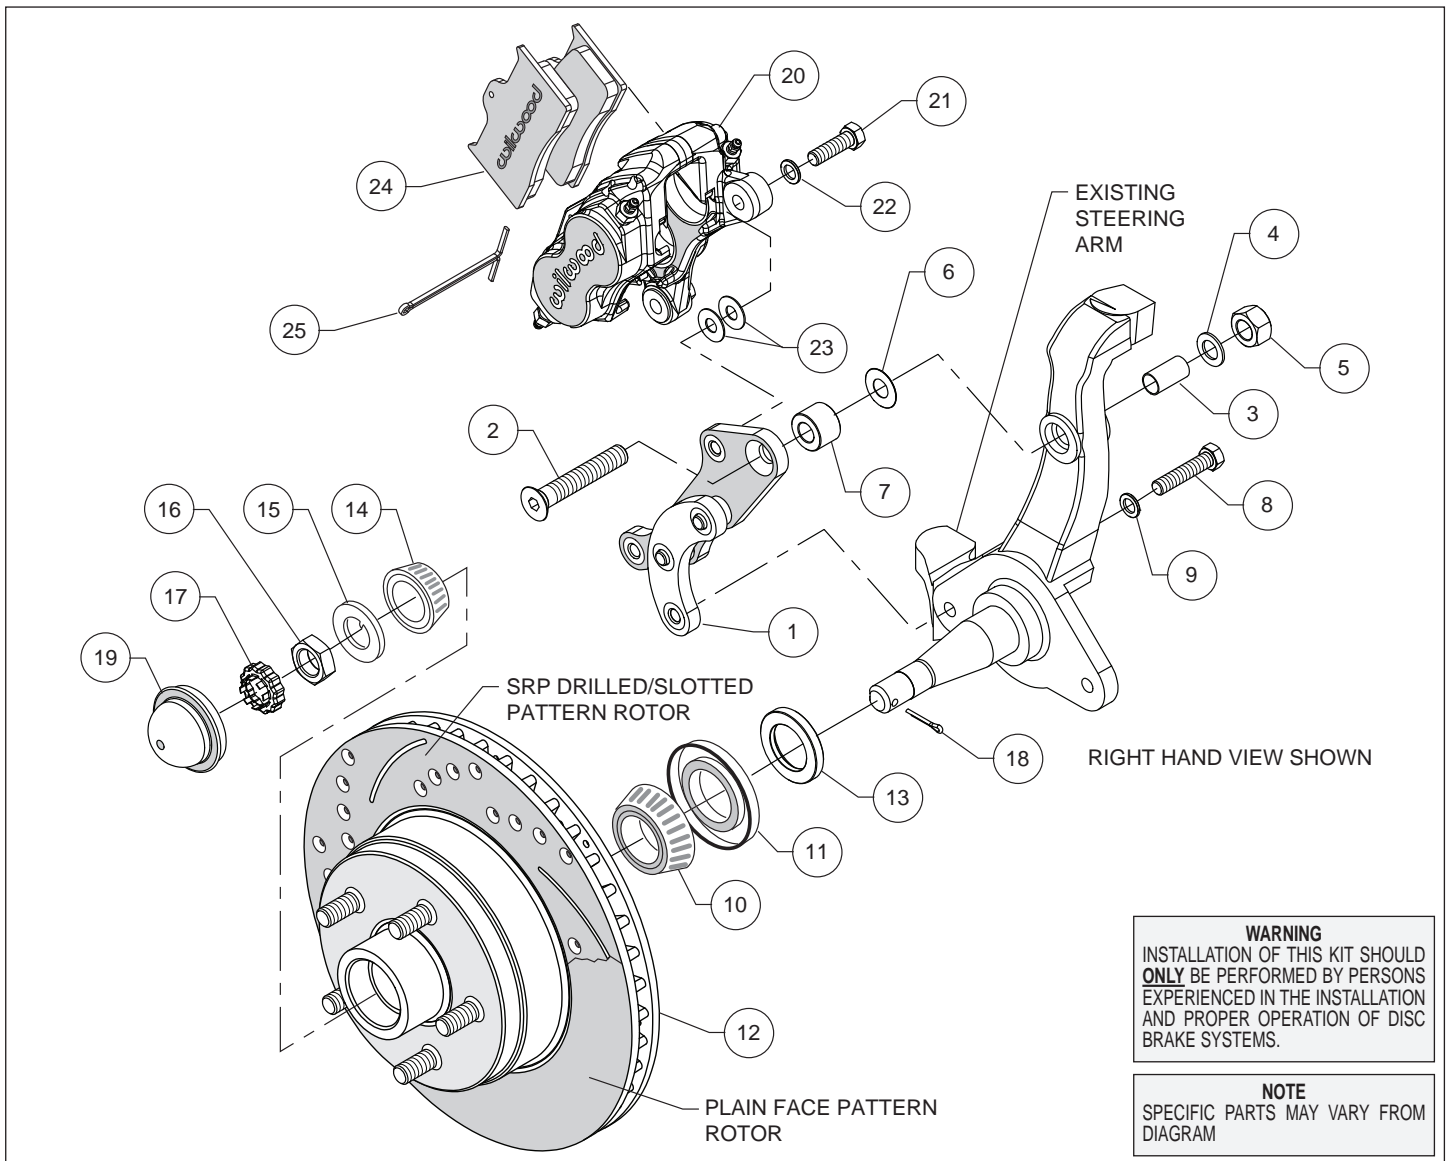
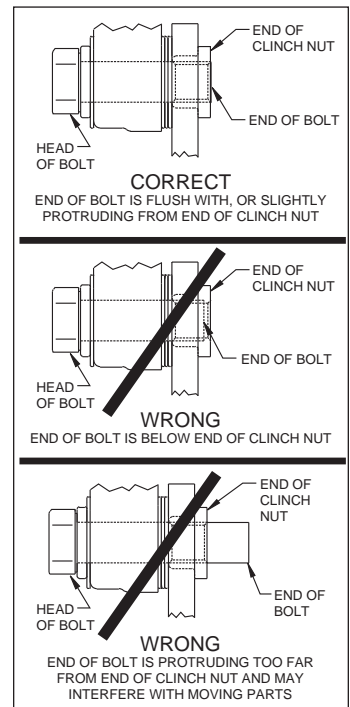

Figure 1. Typical Installation Configuration
Figure 3. Clinch Nut Engagement Diagram
**Assembly Instructions** (numbers in parenthesis refer to the parts list and Figure 1 on the preceding pages): **CAUTION:** All mounting bolts must fully engage clinch nuts. Be sure to check that all bolts are either flush or protruding through flanged side of clinch nut after shimming, Figure 3.
•The caliper bracket (1) should initially be installed with clean, dry threads on the mounting bolts. The bracket has been assembled at the factory for alignment purposes. Loosen the two bolts that secure the brackets together so that the bolts are hand tight only. This will enable the bracket assembly to be adjusted to accommodate various spindle tolerances during assembly. Insert sleeve (3) into top mounting hole on the spindle, Figure 1. Orient the bracket as shown in Figure 1 and install using bolt (2), washer (4), nut (5), in the upper hole. Place a .711" thick spacer (7) positioned between the bracket and spindle, as shown in Figure 1 and Photo 1. Initially use one .032" thick shim (6) on the upper bolt between the bracket and spindle, Figure 1. Install bolt (8) and washer (9) in the lower hole, Figure 1. Temporarily tighten the mounting bolts, followed by the two bracket-to-bracket bolts. **NOTE:** The bracket must fit squarely against the mounting points on the spindle. Inspect for interference from casting irregularities, machining ridges, burrs, etc. Later, after the bracket alignment has been checked, the bolts will be secured using red *Loctite*® 271.
•Pack the large inner bearing cone (10) with high temperature disc brake bearing grease (available from your local auto parts store) and install into the backside of the hub (12), Photo 2.
•Install the grease seal (11) by pressing into the backside of the hub (12), flush with the end of the hub.
•Slide the hub/rotor spindle spacer (13) onto the spindle. Ensure the chamfered I.D. faces inward, Photo 3.
•Temporarily install the hub/rotor (12) onto the spindle. Check that the caliper mounting bracket (1) is aligned parallel to the rotor, Photo 4. If not, adjust by adding or subtracting shims (6) on the upper bolt between spacer and spindle, Figure 1. Once the bracket alignment is correct, remove upper bolt, apply red *Loctite*® 271 to the threads, and torque to 77 ft-lb. Remove the lower bolt, apply red *Loctite*® 271 to the threads, and torque to 40 ft-lb.
- Remove hub/rotor and pack the small outer bearing cone (14) with high temperature disc brake bearing grease and install into the front side of the hub (12). Slide the hub/rotor onto the spindle. Secure using spindle washer (15), and spindle nut (16). Adjust bearings per OEM specifications. Install spindle nut retainer (17) and a new cotter pin (18), Photo 5.
- Press the dust cap (19) into the hub (12), Photo 6.
- NOTE:** Please reference the caution statement at the beginning of the assembly instructions. Mount the caliper (20) onto the caliper mounting bracket (1) using bolts (21) and washers (22), as shown in Figure 1. Initially place two .035" thick shims (23) on each bolt between the caliper and the bracket, Photo 7. Temporarily tighten the mounting bolts and view the rotor (12) through the top opening of the caliper. The rotor should be centered in the caliper, Photo 8. If not, adjust by adding or subtracting shims between the bracket and the caliper. Always use the same amount of shims on each of the two mounting bolts. **NOTE:** The end of each bolt must be flush with or slightly protruding from the head of the clinch nut, as shown in Figure 3. If necessary place spare shims between washer (22) and caliper mounting ear to achieve the proper clinch nut engagement. Once the caliper alignment and clinch nut engagement are correct, remove the bolts one at a time, apply red *Loctite*® 271 to the threads, and torque to 40 ft-lb.
- Install the disc brake pads (24) into the caliper, with the friction material facing the rotor (12), Photo 9. Secure in place using cotter pin (25), Photo 10.